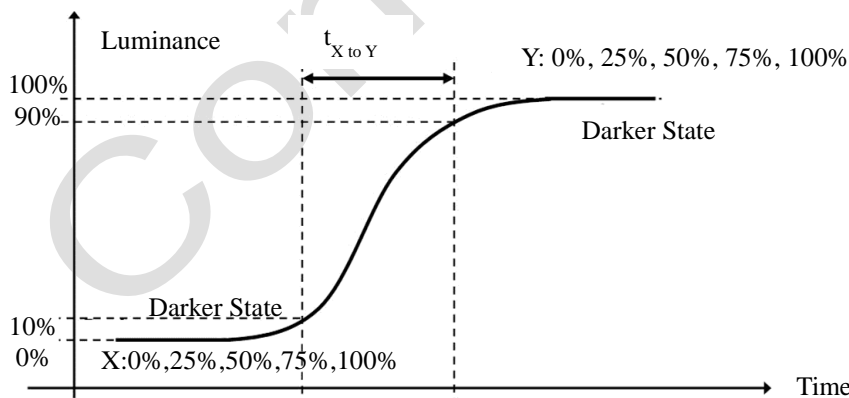

Fig. 6.4 The definition of $t_{X \text{ to } Y}$
(3) Response time T_L is defined as the average transition time in the response time matrix. The table below is the response time matrix in which each element $t_{X \text{ to } Y}$ is the transition time from luminance ratio X to Y. X and Y are two different luminance ratios among 0%, 25%, 50%, 75%, and 100% luminance. The transition time $t_{X \text{ to } Y}$ is defined as the time taken from 10% to 90% of the luminance difference between X and Y ($X < Y$) as illustrated in Fig 6.4. When $X > Y$, the definition of $t_{X \text{ to } Y}$ is the time taken from 90% to 10% of the luminance difference between X and Y. The response time is optimized on refresh rate $F_R = 60\text{Hz}$.